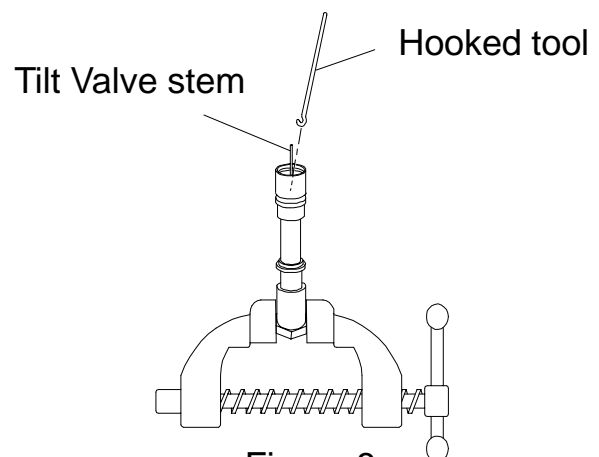

Figure 8
- With the Inlet Bushing still in the vise, remove the Tilt Valve Seat Retainer (32) and Tilt Valve Seat Support (31). Use a hooked tool with no sharp edges to remove the Tilt Valve Seat (30) from the Inlet Bushing. See Figure 8.